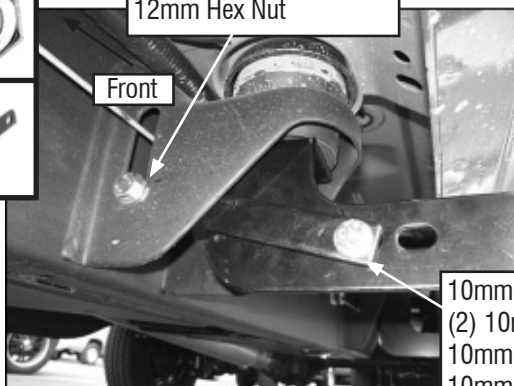

Figure 5
Move to the Center Mounting Bracket. Select (1) Center Support Bracket-note the two different sizes of mounting holes in the Bracket. Slide the end of the Center Support Bracket with the larger mounting hole between the factory body mount and the Center Mounting Bracket. Attach the Support Bracket to the body mount using the included (1) 12mm x 30mm Hex Bolt, (2) 12mm Flat Washers, (1) 12mm Lock Washer and (1) 12mm Hex Nut, (Figures 5 & 6). Do not tighten at this time.
Attach the opposite end of the Support Bracket to the Center Mounting Bracket with (1) 10mm x 30mm Hex Bolt, (2) 10mm Flat Washers, (1) 10mm Lock Washer and (1) 10mm Hex Nut, (Figures 5 & 6). Do not tighten at this time.